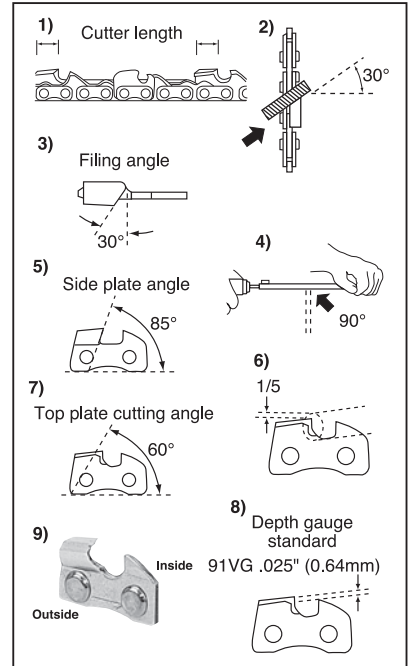

FIG.21
9.9 SHARPENING (FIG.21)
- Use a round file specific for the chain fitted. Observe the sharpening angle (Fig.21 parts 2, 3, 5, 7, 8).
- Sharpen by filing from the inside outwards (Fig.21 part 9) all the teeth on one side and then all the teeth on the other.
- Position the file to project 20% of its diameter above the cutter (Fig.21 part 6).
- Make sure every cutter is filed to the same length and angle, and that all depth gauge links are the same height (Fig.21 part 1).